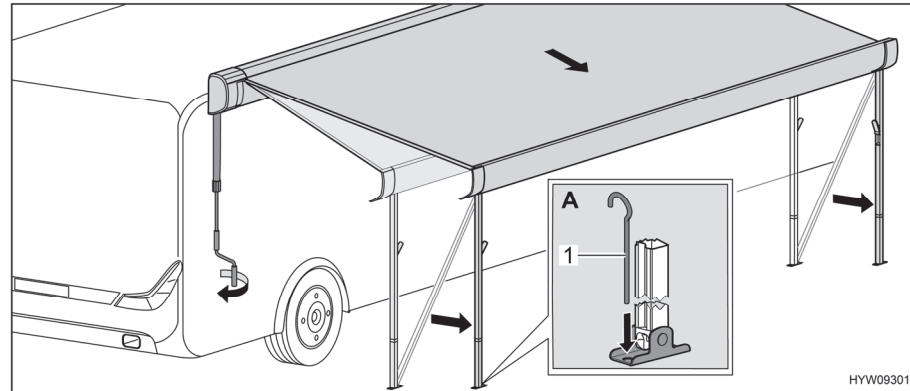

Fig. 49 Bringing awning into end position
- Fix the support legs to the floor with tent pegs (Fig. 49,1) (Fig. 49,A).